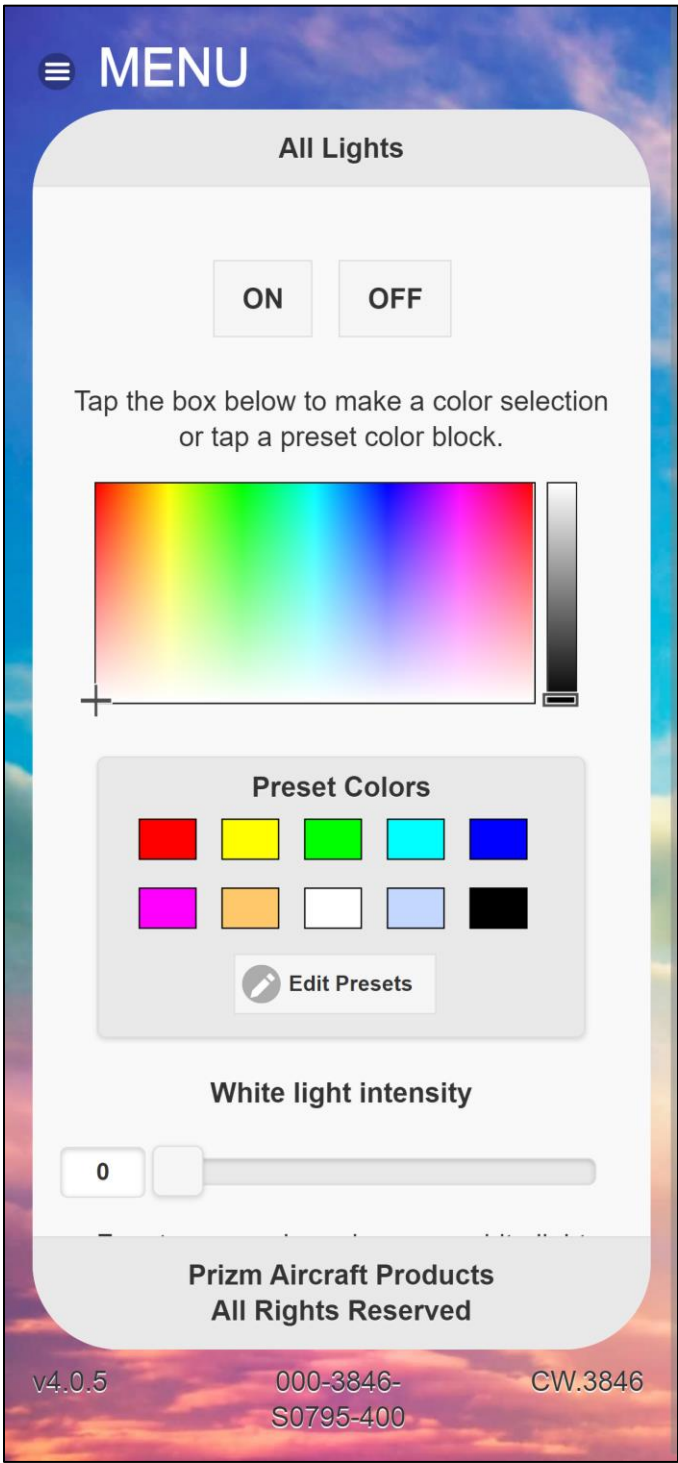

Figure 8-5 – Prizm App All Lights Menu
8.6.5 Select All Lights, the All Lights page will appear (Figure 8-5), select the On button.